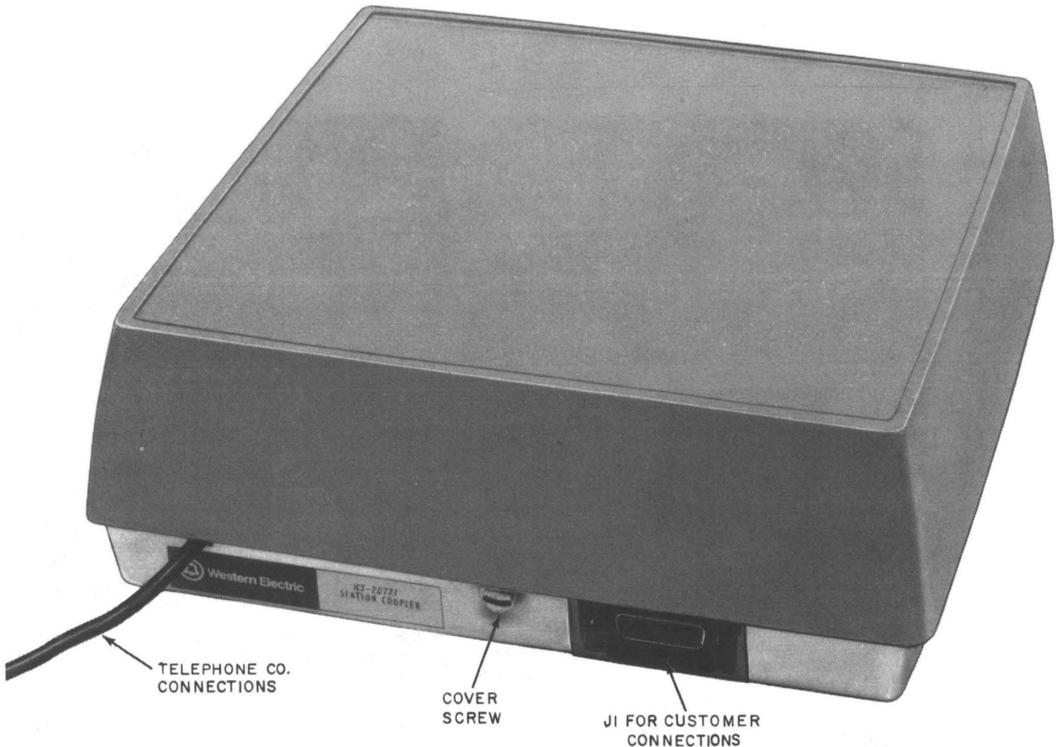
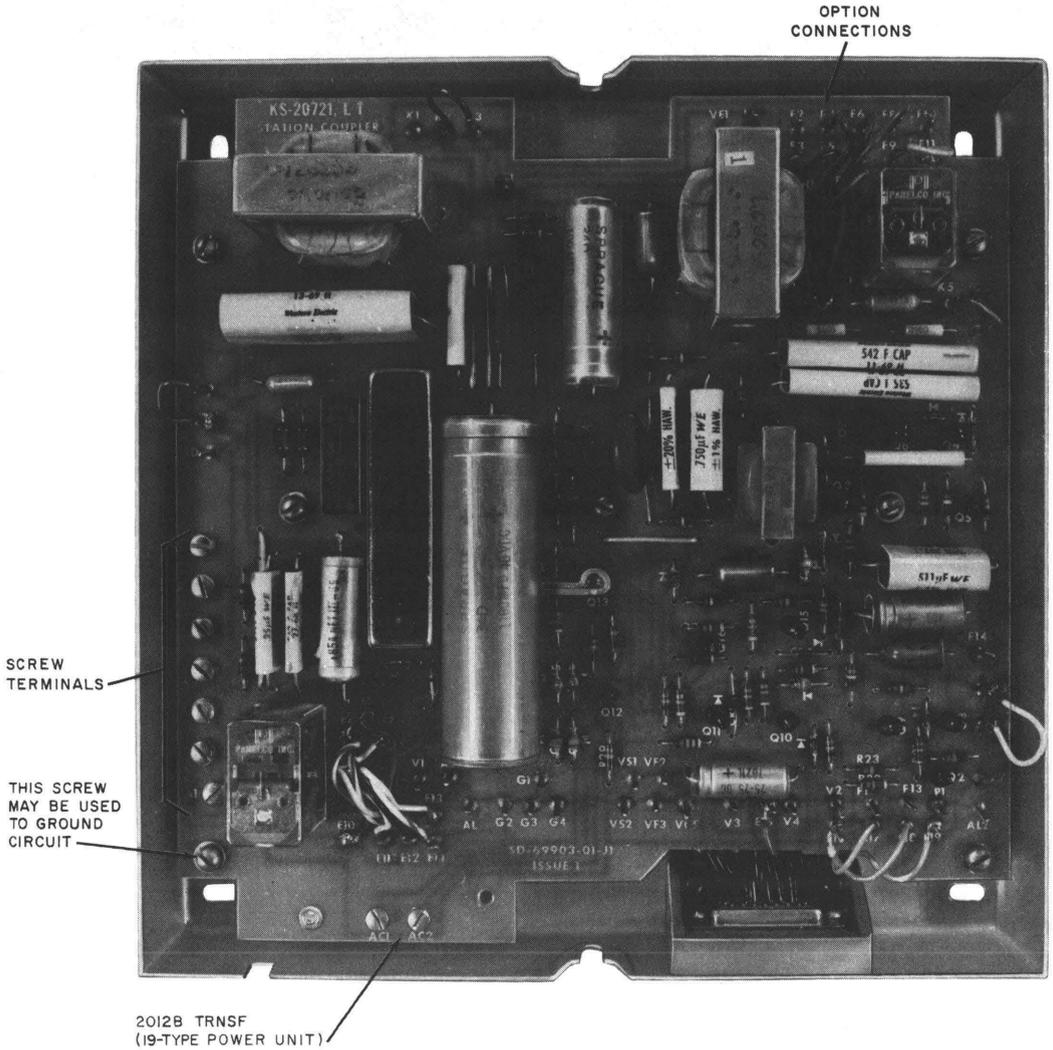

Fig. 1—KS-20721, List 1 Station Coupler
Fig. 2—KS-20721, List 1 Station Coupler, Cover Removed
- Coupler, Station, KS-20721, L1 (Fig. 1 and 2).
3.02 A 15-pin connector (J1, Fig. 1) is located on the base of the unit to connect the pulsing and muting leads to the CPE by means of a CP cable equipped with an ITT-Cannon Electric or Cinch Manufacturing Company plug No. DA-19603-403 with hood No. DA-51225-1. Screw terminals on the left side of the printed circuit board (Fig. 2) provide connections to the dial and receiver of the telephone set and 2012B power transformer (or power supply). Flexible jumper leads with connectors provide for installation options.